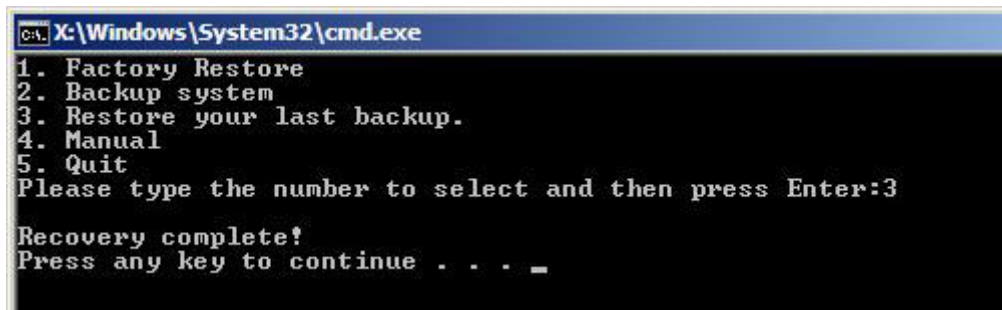

Figure A-39: Restore System Backup Complete Window
Step 3: The screen is shown as in **Figure A-39** when backup recovery is completed. Press any key to reboot the system.